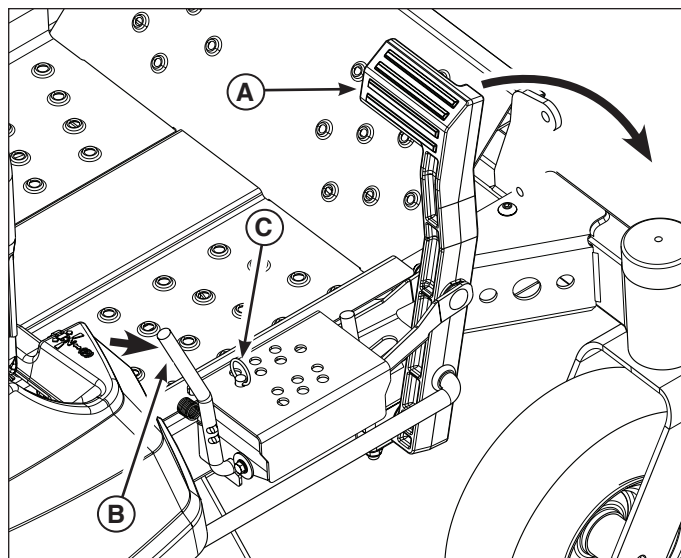

Figure 12
1. Fully depress the cutting height adjust pedal (A, Figure 12) until the transport release rod (B) locks the deck into the highest position (transport position).
2. Remove the pin (C) from the adjustment bracket, and insert it in the desired hole.